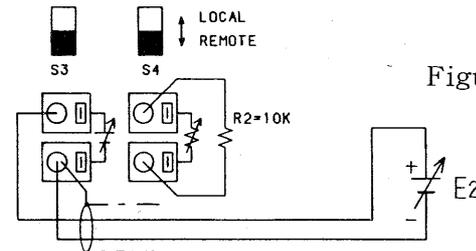

Figure 10
As shown in Figure 10, connect the external voltage and external fixed resistance.
- For connection of E2, use a two-conductor shield. Connect the outer shield as shown in Figure 10.